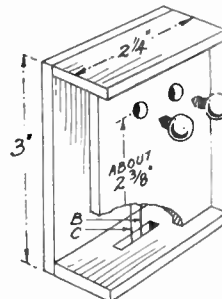

Fig. 4—The complete back casing
Fig. 3. A box-like casing is made of $\frac{3}{16}$ in. or $\frac{1}{4}$ in. wood to go behind the cat. In the diagram, the back of the casing is shown as (B), and the top of it as (C). The back (B) could, if desired, be held in place by roundhead screws, so that it can be easily removed in the case of any adjustments to the interior wiring, etc. A complete view of the back casing is given in Fig. 4, which also shows the two connecting wires (B) and (C), which go on to the switches below.